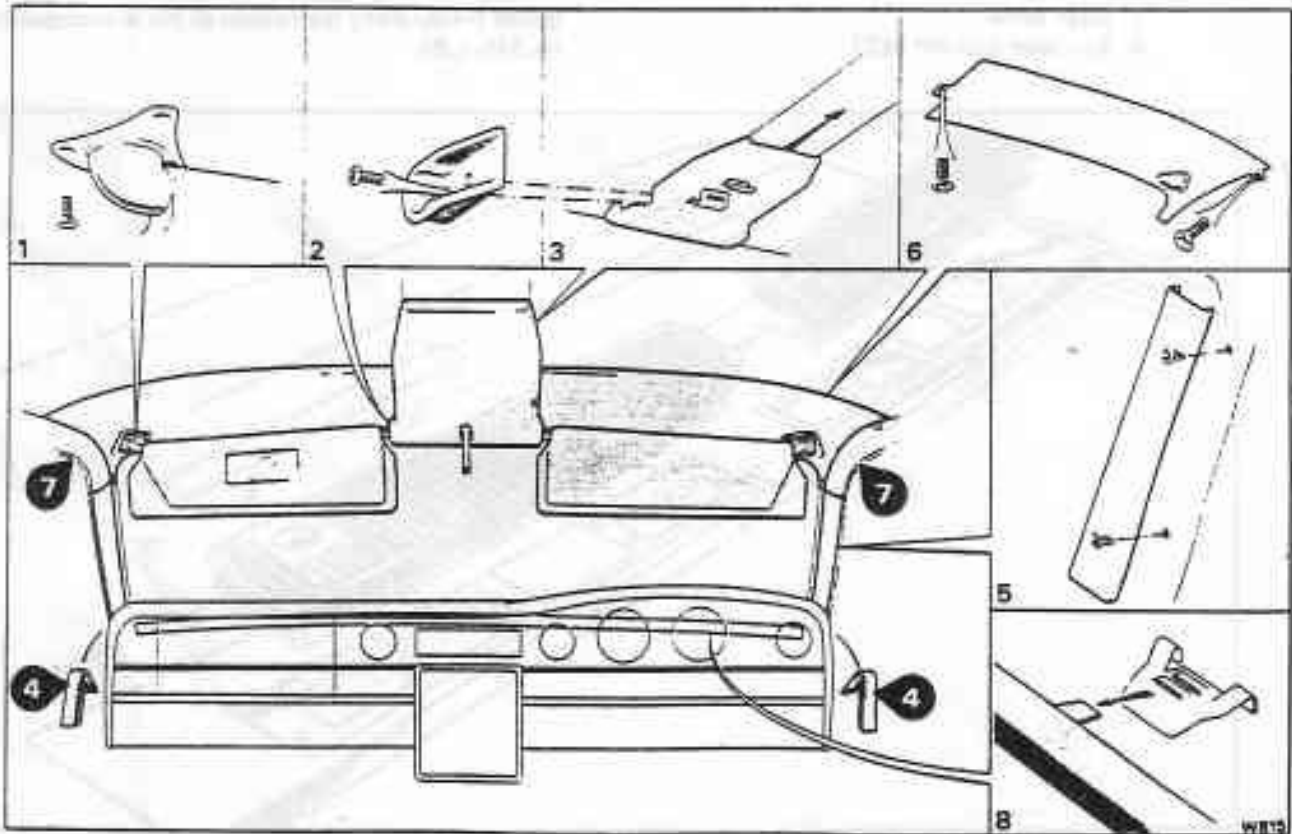

Fig. S10-4 Windscreen interior trim
- 9. Pull the sun visors from their inner retaining brackets. Release the screws and remove the sun visors (see fig. S10-4, item 1).
- 10. Remove the screws from the sun visor inner retaining brackets (see fig. S10-4, item 2). Slide back and remove the centre header trim panel (see fig. S10-4, item 3).
the top roll and 'A' post trim (see fig. S10-4, item 4).
12. Unclip and remove the 'A' post trim panels (see fig. S10-4, item 5).
13. Remove the header trim panels (see fig. S10-4, item 6).
To gain access to the screws securing the outer sides of the panels, unclip the front part of each central trim panel (see fig. S10-4, item 7).
15. Remove the windscreen finisher rail (see fig. S10-4, item 8).